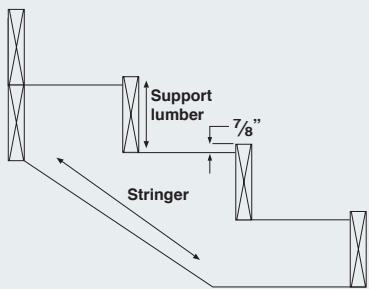

FIG.10b
- Install stringer directly to rim joist of deck lumber, not to the fascia cladding. Attach support (2" x 6" or 2" x 8") across risers with #8 deck screws. The top edge of the support lumber must extend ⁷/₈" above riser to support the bullnose. (REFER TO FIG.10b)